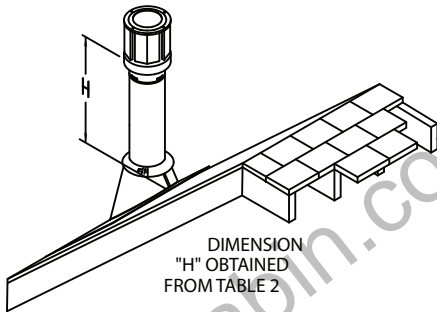

Figure 17
Step 8. Continue to add Pipe Sections until the height of the system (before adding the Cap) meets the minimum building code requirements as described in (Table 3 and Fig. 17).